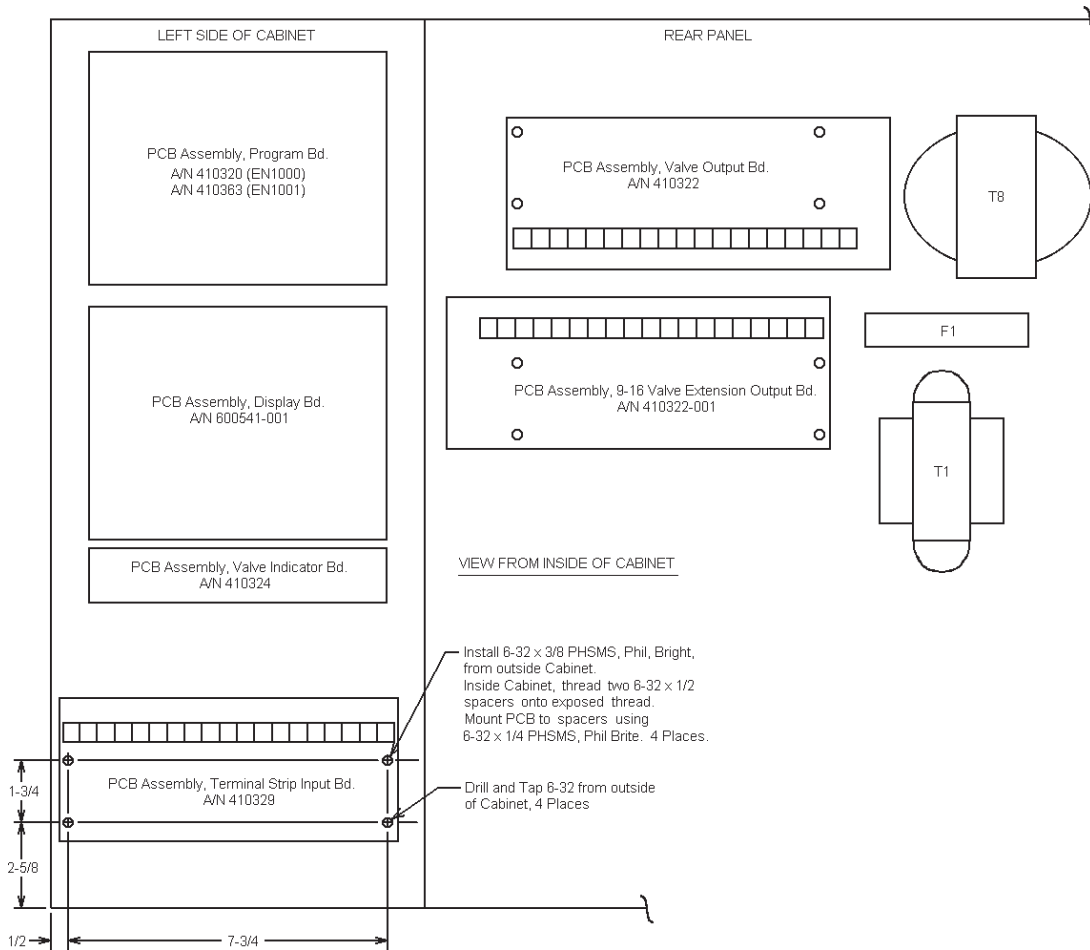

Figure 5-2. Mounting detail for “T/D” Cabinet
3. Remove the four (4) screws and Terminal Strip Input Board (A/N 410329) from rear panel of cabinet.
4. Drill and tap the left side of the cabinet per Figure 5-2, be sure to vacuum or otherwise remove ALL metal chips before installing four (4) 6-32 x 3/8 PHSMS, Phil, Brite from outside of cabinet. On the inside of the cabinet, mount two (2) 6-32 x 1/2 spacers (P/N 555031) on each exposed thread (4 places) to offset PCB 1" from cabinet wall.
5. On rear panel, add extra spacer (P/N 555031) to each standoff if needed (spacing should not exceed 1"). Mount 9-16 Valve Extension PCB (A/N 410322-001 or -003) to the four standoffs on the rear panel using four (4) 6-32 x 1/4 PHSMS, Phil, Brite, rotate board as shown in Figure 5-2.
6. Move Terminal Strip Input PCB (A/N 410329) to spacers on left side of cabinet using four (4) screws previously removed. See Figure 5-2.